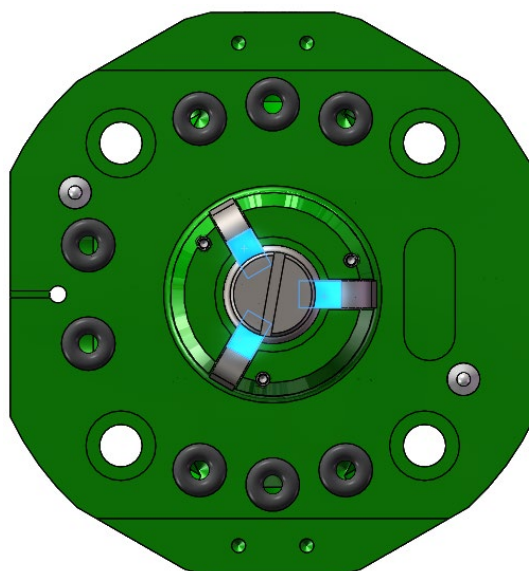

Figure 8.1.1.1-1. E63 Robot Side Lubrication – Cams & Driver
2. Apply a liberal coating of white lithium grease to the contact surfaces between the three (3) latching cams and driver, as shown in Figure 8.1.1.1-1 with the surfaces highlighted blue.